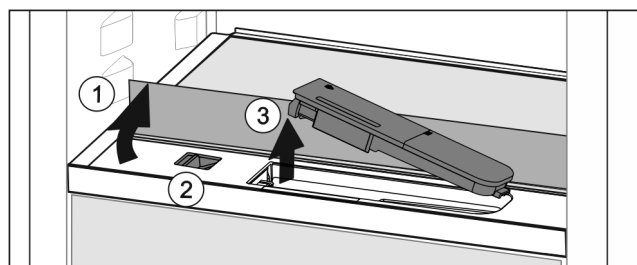

Fig. 42
- ▶ Lift the glass panel and fold towards the rear until it clicks into place Fig. 42 (1).
- ▶ Slide the slider Fig. 42 (2) to the left.
- ▶ Remove the water tank Fig. 42 (3).